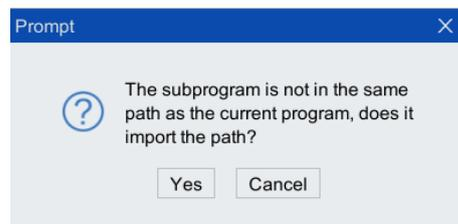
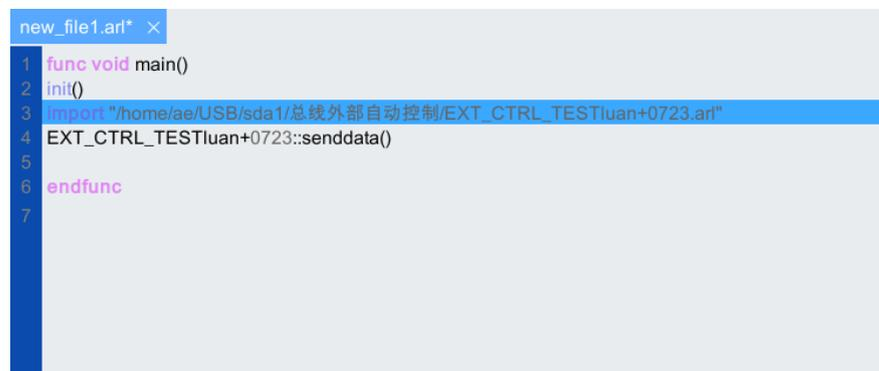

Figure 5-48 "Are you sure to Import Path" dialog box
Figure 5-49 Subprogram is inserted along with its path (if it is not in the same path as the main program)
Step5. If the subprogram (senddata) to be inserted is not in the same path as the main program, "The subprogram is not in the same path as the current program. Does it import the path?" dialog box will pop up, as shown in Figure 5-48. Click <Yes> button, and then the subprogram will be inserted into the main program along with its path, as shown in Figure 5-49.